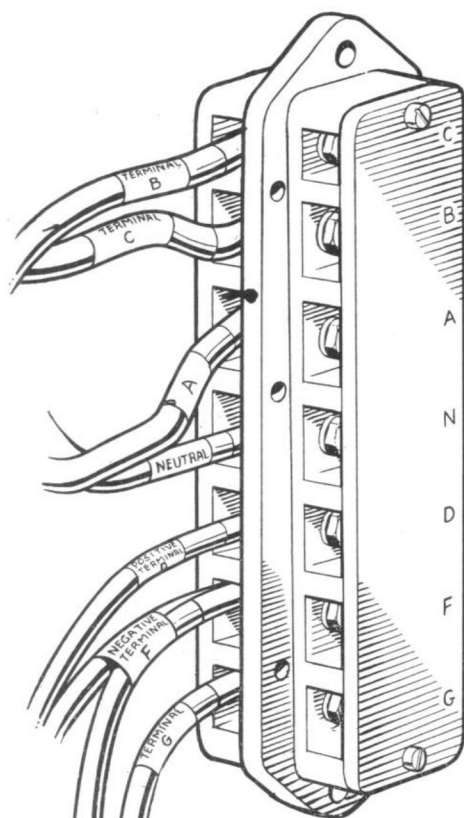

Fig. 3. Terminal block cable connections
#### Fitting a 7-way terminal block (fig. 3)
- (2) Position the terminal block in the front end panel and secure with eight bolts, plain washers and nuts. Note that the bolts are inserted from the exterior of the panel.
- (3) Refit the a.c. generator and starter motor cables, and secure with the self-locking nuts. For the correct cable sequence refer to fig. 3.
- (4) Secure the terminal block cover plate with two screws, plain and spring washers.
- (5) Place the terminal block cover in position and secure with five bolts, plain washers and self-locking nuts. Note that the bolts are inserted from the interior of the power plant.